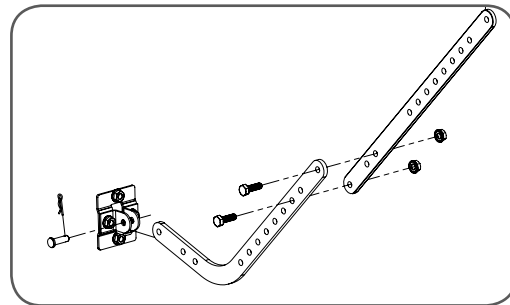

fig 17
- Assemble the bent and straight arms with bolts and nuts supplied in the accessory pack (**Fig. 17**). Always use both bent and straight arms.